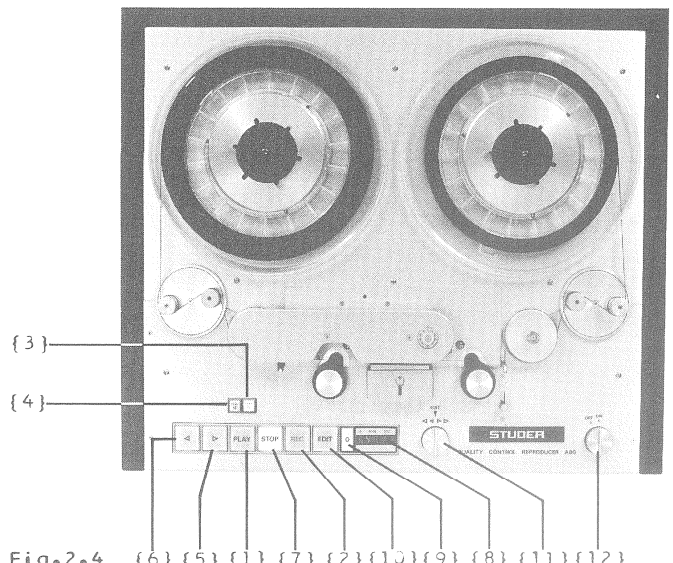

Fig.2.4 {6} {5} {1} {7} {2} {10} {9} {8} {11} {12}
-> Fig.2.4/2.5
-> Fig. 2.4/2.5